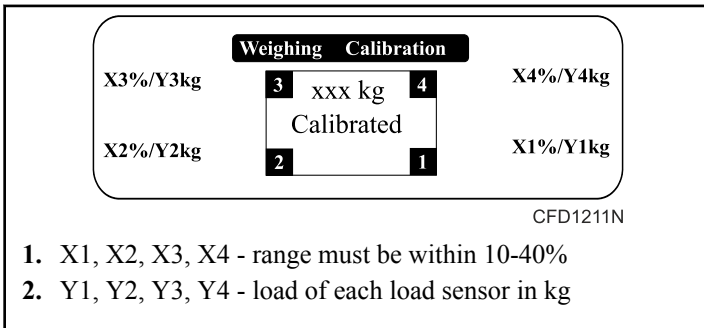

Figure 10
12. Check and, if necessary, adjust the height of the load sensor feet so that an even load distribution among all the load sensors is ensured. Refer to *Figure 10*.